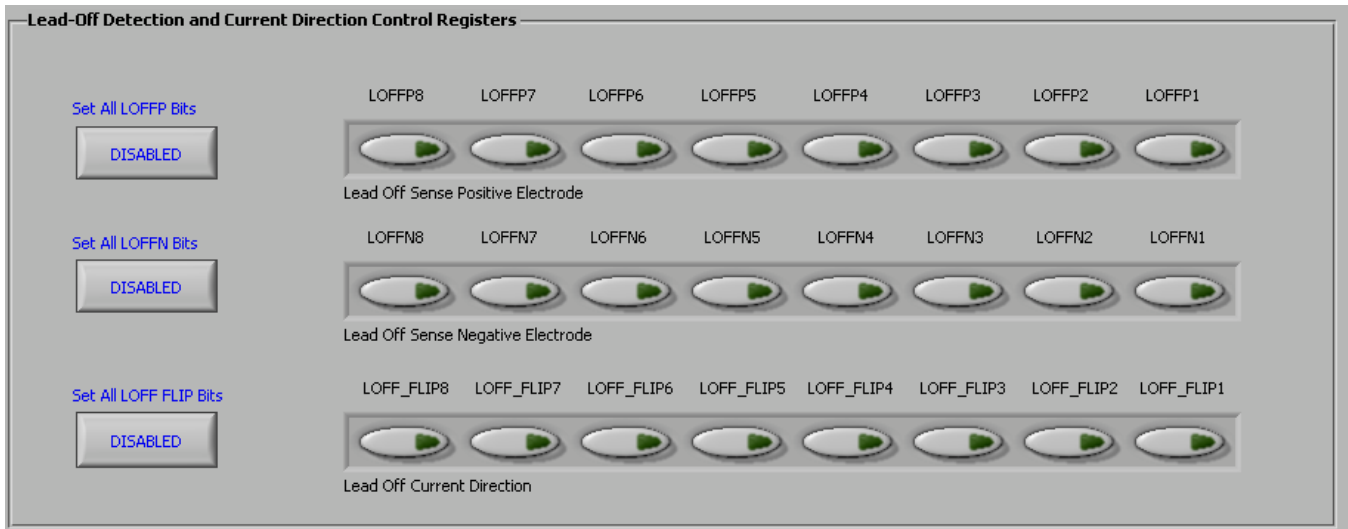

Figure 41. Setting the LOFF Register Bits
- Step 2. Choose the lead-off scheme by setting the respective bits in the LOFF register (in the LOFF control tab). Select the *DC Lead-Off Detect, 6.25 nA, Current Source* scheme, and set the comparator threshold to 95%. Select the appropriate inputs for lead-off detection by clicking the bits of the LOFF_SENSP and LOFF_SENSN Registers. The LOFF tab should appear as shown in Figure 41.